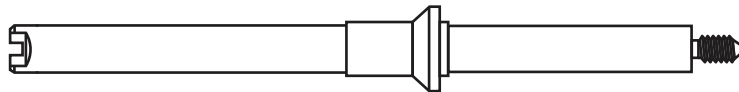

Figure 13 Mounting post (G4513-20561)
- 7 Install the injector mounting post (G4513-20561, Figure 13) to the GC inlet cover's threaded connection. If the wrong post is used (for example the 7683B ALS mounting post) the injector will not work. The mounting post supplied in this kit only supports the G4513A Injector.